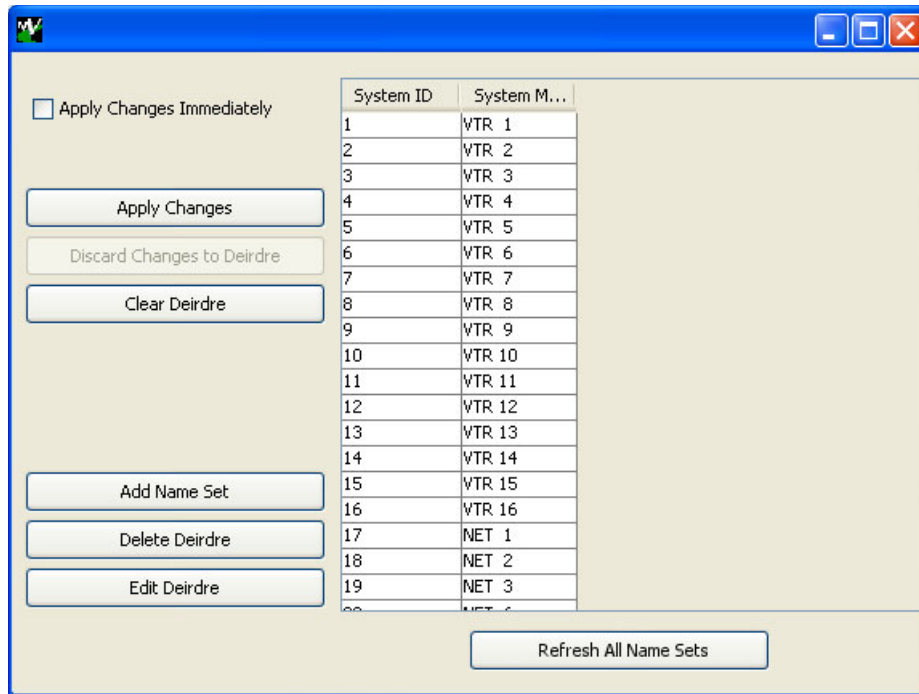

Figure 17-1. Name Sets Window
- 3 Right-click on the system controller you are currently working with and from the pop-up menu select 'Edit Name Sets'. The 'Name Sets' window appears, as shown in Figure 17-1. All name sets currently defined in the system are listed.